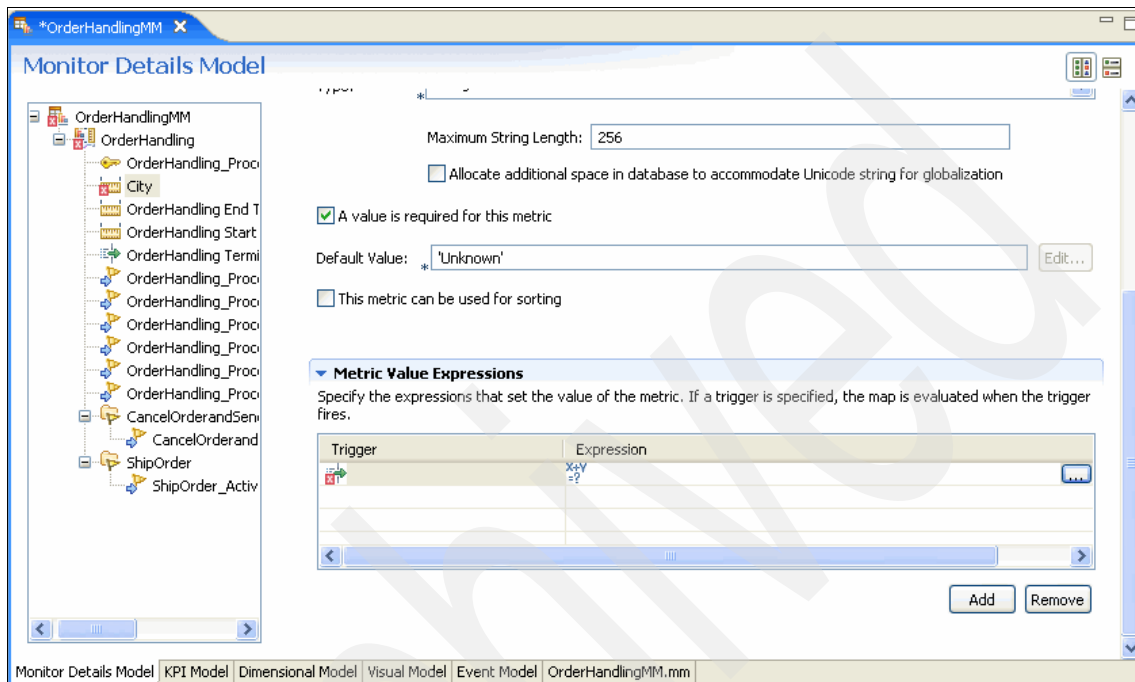

Figure 8-60 Setting the default value for City metric
- Because we use the City metric as a dimension, on the Monitor Details Model page (Figure 8-60), select **A value is required for this metric**. For Default value, type 'Unknown'. Under Metric Value Expressions, click **Add** and then click the ... button on the right in the Expression cell.